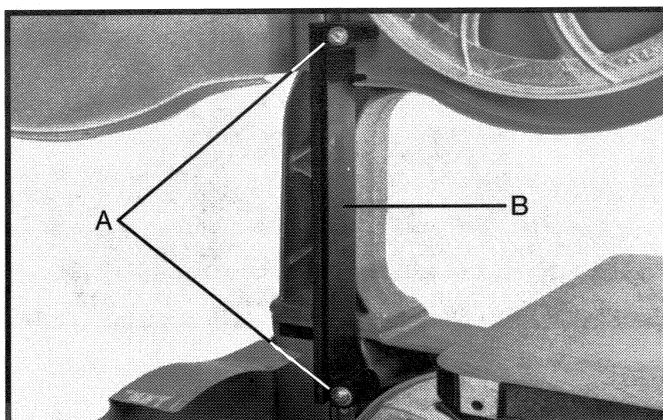

Fig. 2
1. Remove the guard mounting hardware (A) and guard (B) Fig. 2. **NOTE:** Use the mounting hardware (A) to attach the new longer guard to the machine, after the riser is installed. (Hardware may differ depending on the band saw).